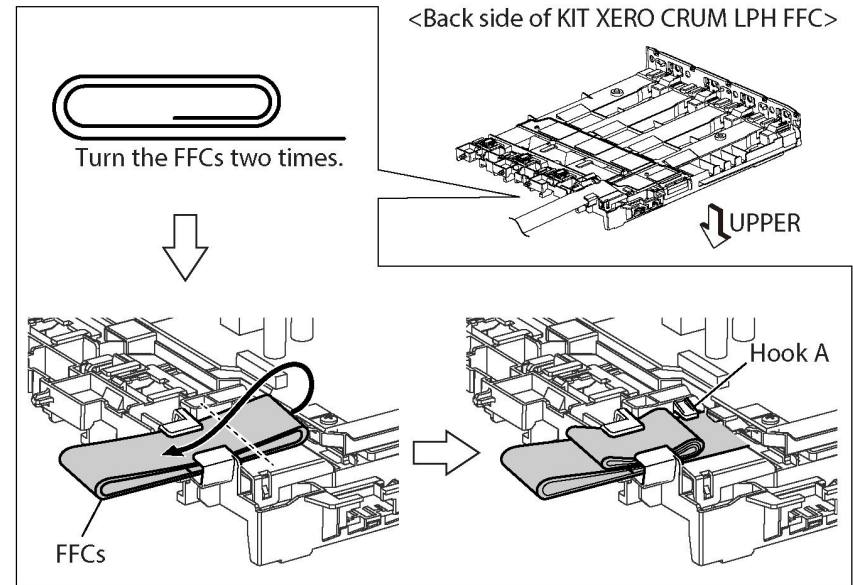

Figure 6 Install the LPH xerographic CRUM
1. Fold the FFCs as shown in **Figure 6**.